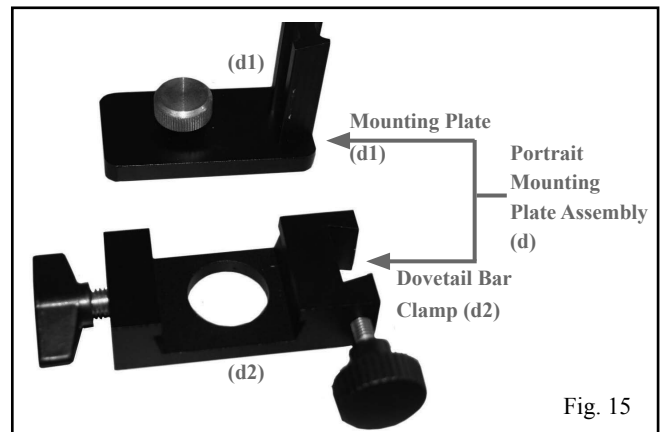

Fig. 15
2. Slide the Mounting Plate (d1) and the Dovetail Bar Clamp (d2) apart as in **Fig. 15**.